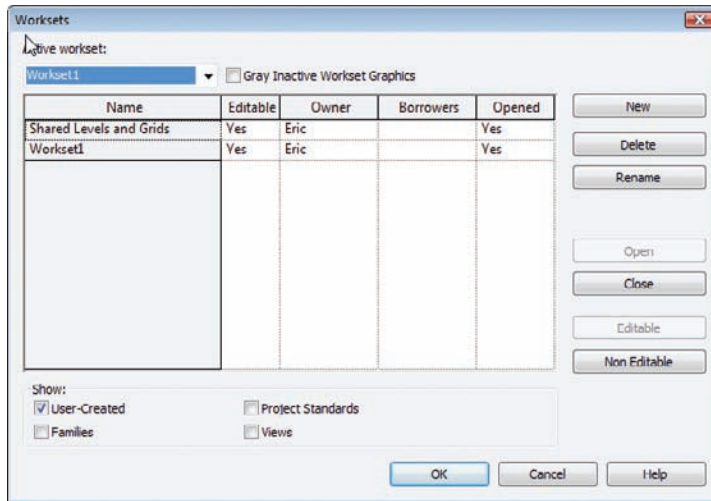

FIGURE 22.4 The Worksets dialog
4. The next dialog you arrive at is named Worksets, as shown in Figure 22.4. As you can see, your two worksets are present in a spreadsheet format. It says they are both Editable and that you own them. Congratulations. There is plenty to explain here:
- ▶ The Show area at the bottom of the Worksets dialog will allow you to add specific families, project standards, and views to the workset list (see Figure 22.4).